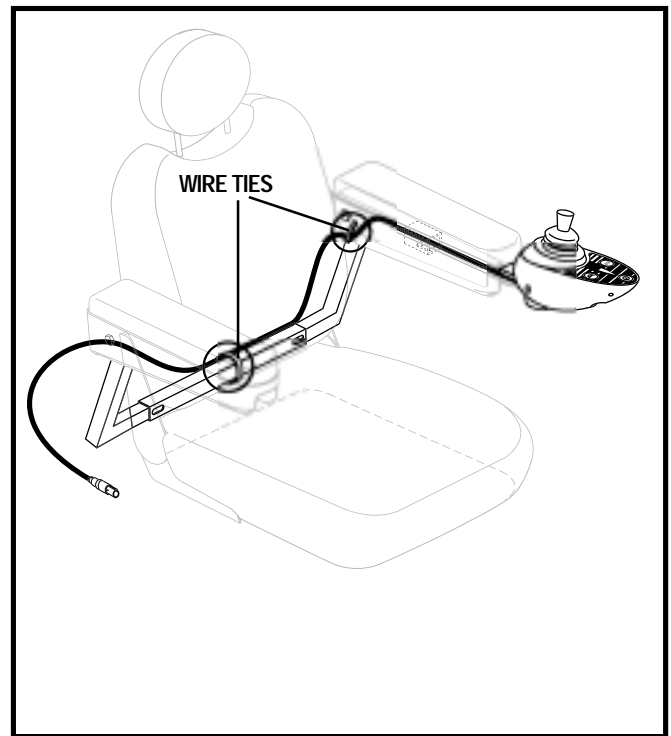

Figure 13. Controller Routed on a Contour Seat
9. Secure the controller cable to the armrest receiver with wire ties. See figure 13.